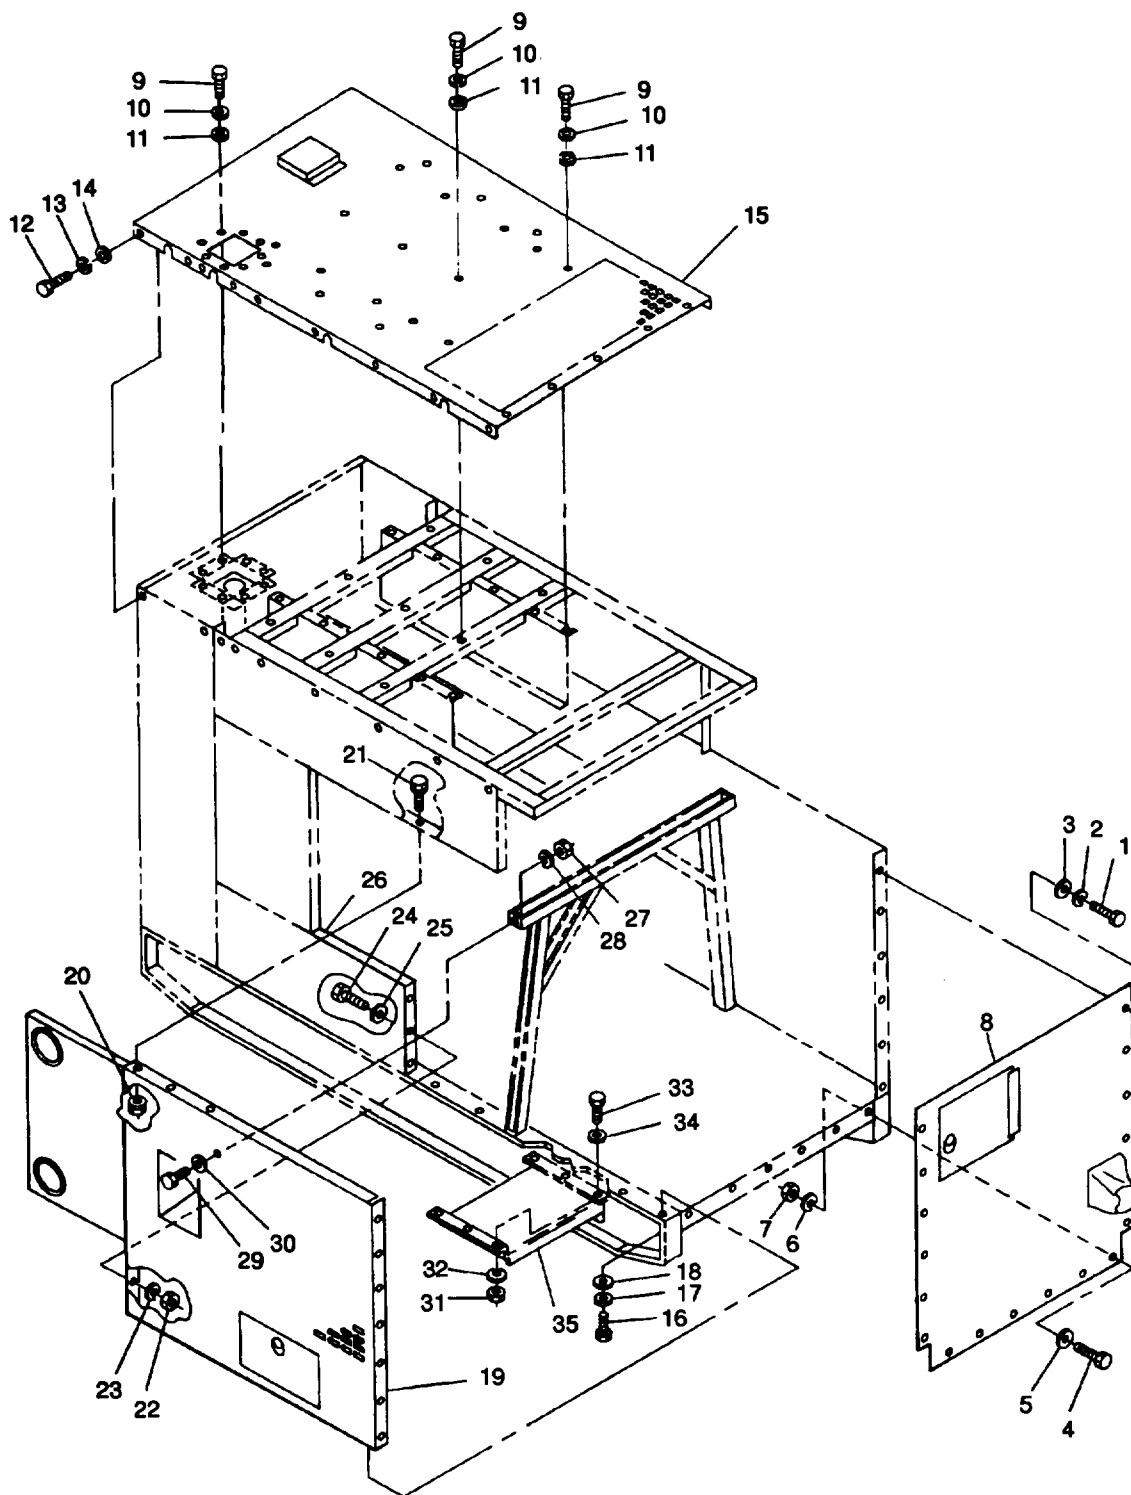
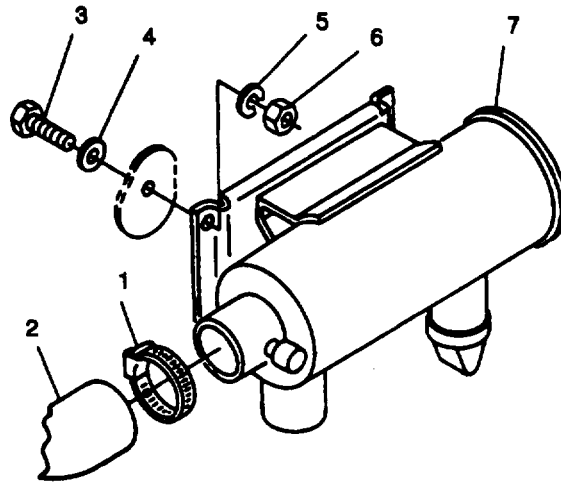
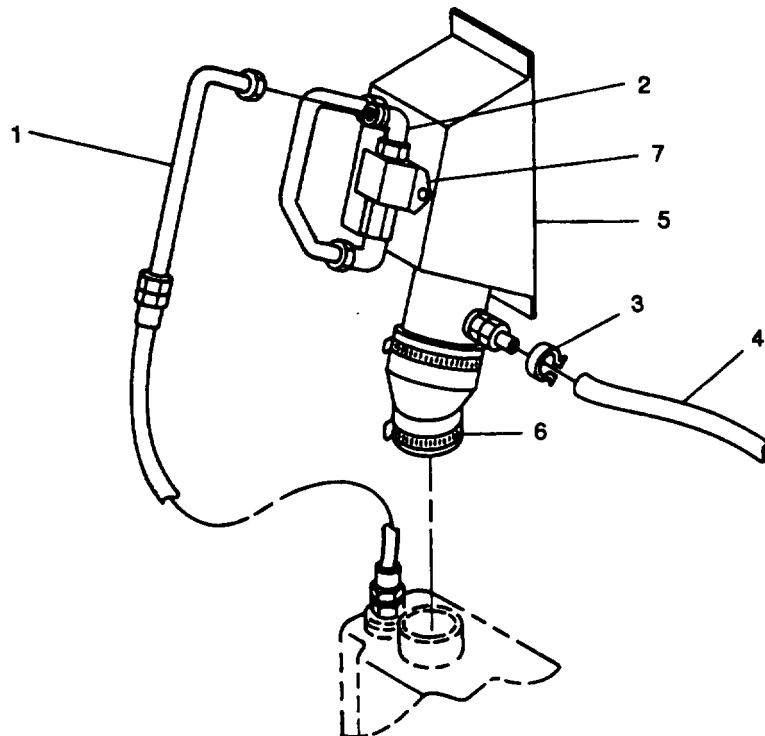
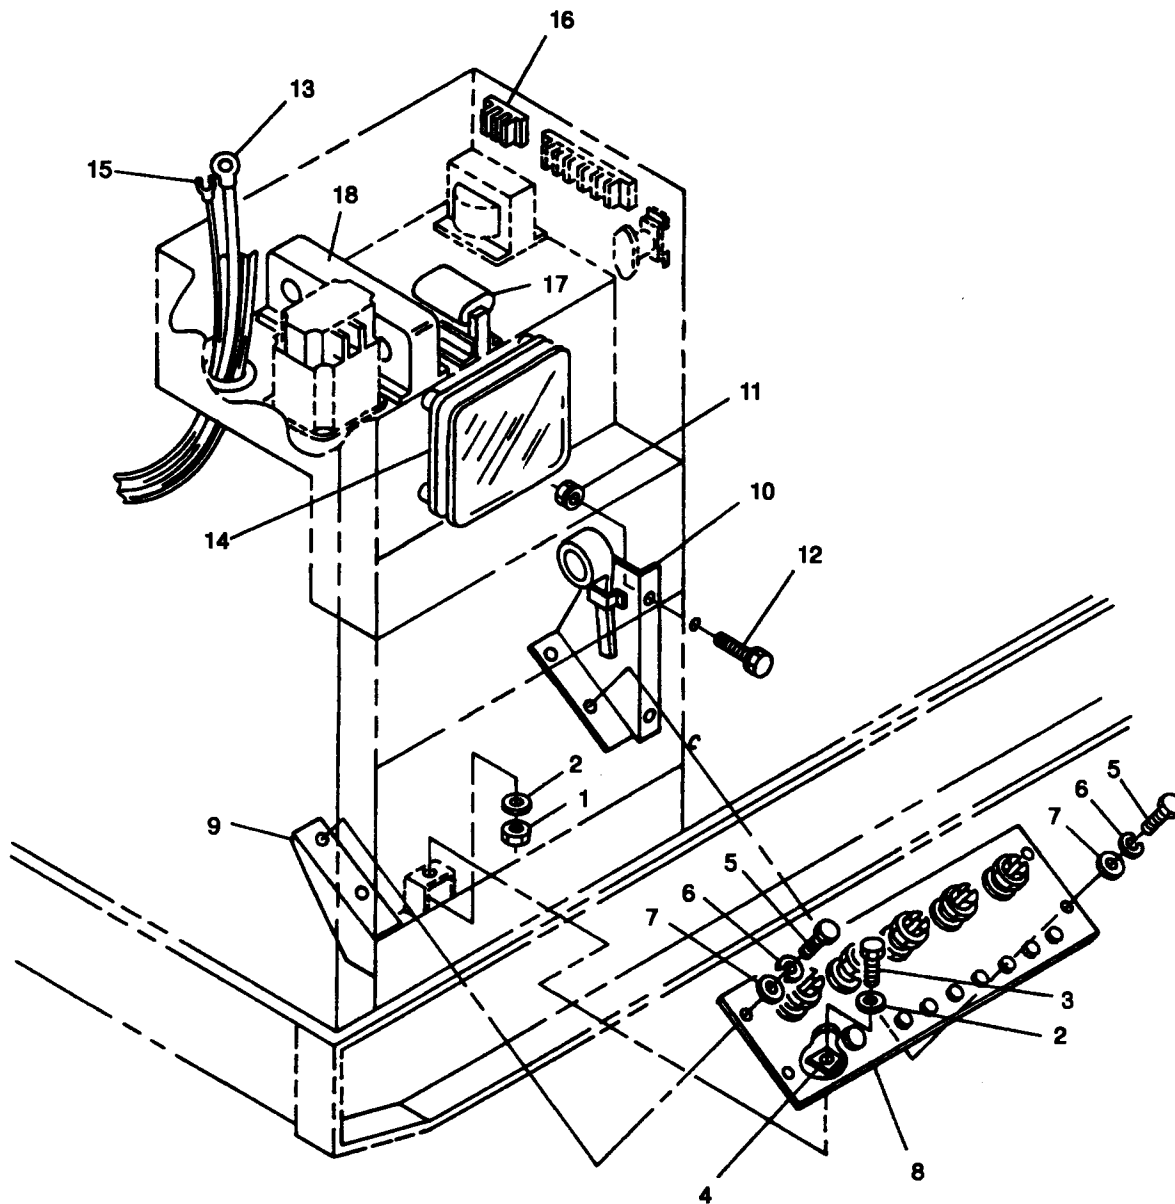

FIGURE 4-11. Generator Set Housing and Rear Forklift Guide
FIGURE 4-12. Air Cleaner Assembly
FIGURE 4-13. Fuel Filler Panel Assembly
FIGURE 4-14. Load Output Terminal Board and Main Generator Cables
- Remove bolts (1 and 4, FIGURE 4-11), washers (3) and (5), lockwashers (2) and (6), nuts (7), and rear housing panel (8) from generator set.
- e. Loosen damp (1, FIGURE 4-12) and remove hose (2) from air deaner assembly (7).
- f. Remove bolts (3), washers (4), lockwashers (5), nuts (6), and air cleaner assembly (7) from generator set.
- g. Disconnect fuel line (1, FIGURE 4-13) from auxiliary fuel pump fitting (2). Cap openings.
- h. Remove damp (3) and disconnect hose (4) from fuel filler panel assembly (5). Cap openings.
- i. Loosen clamp (6) securing fuel filler panel assembly (5) to fuel tank. Cap openings.
- j. Tag and disconnect auxiliary fuel pump (7) electrical connector.
- k. Remove bolts (9 and 12, FIGURE 4-11), lockwashers (10) and (13), washers (11) and (14), and top housing panel (15) from generator set.
- l. Remove bolts (16), lockwashers (17), and washers (18) securing left rear side panel (19) to skid base.
- m. Remove assembled nuts (20) and bolts (21) securing top housing section to left rear side panel (19).
- n. Remove nuts (22), lockwashers (23), bolts (24), and washers (25) securing lower left side panel (26) to left rear side panel (19).
- o. Remove nut (27), lockwasher (28), bolt (29), and washer (30) securing rear housing side panel (19) to engine support frame. With aid of an assistant, remove left rear side housing panel (19), with left rear engine access door attached, from generator set.
- p. Remove nut (1, FIGURE 4-14), lockwashers (2), and bolt (3) securing ground strap (4) to skid base.
- q. Remove bolts (5), washers (7), and lockwashers (6) securing load output terminal board assembly (8) to supports (9) and (10).
- r. Remove assembled nuts (11), bolts (12), and support (10) from right rear side panel.
- s. Tag and disconnect main generator cables (13) from voltage reconnection terminal board (14), and exciter leads (15) from terminal board (16).
- w. Remove nuts (31, FIGURE 4-11), lockwashers (32), bolts (33), washers (34), and rear forklift guide (35) from skid base.
- e. Position generator on skid base aligning mounting holes with mounts and engine flywheel housing adapter (23).
- f. Install bolts (8), washers (9), and lockwashers (10), tightening bolts (8) slowly to ensure even and proper seating of generator case lip to engine flywheel housing adapter (23). Torque bolts (8) to 25 ft-lbs (34 Nm).
- g.. Install bolts (14), Belleville washers (15), snubbing washers (13), washers (12), and nuts (11) securing generator assembly to skid base. Torque nuts (11) to 210 ft-lbs (285 Nm).
- h.. Install bolts (6) and washers (7) securing generator drive disc to engine flywheel. Torque bolts (6) to 35 ft-lbs (47 Nm).
- i. Install screen/cover (5) on generator case with screws (3), washers (4), lockwashers (2), and nuts (1).
- j. Adjust nuts (17) on generator mount, to obtain 0.5 in. (12.7 mm) minimum clearance between ends of bolts (19) and skid base. Torque nuts (17) to 150 ft-lbs (203 Nm).
- k. Loosen nut (24), adjust bolt (25) until 0.25 in. (6.4 mm) protrudes past bracket (27). Tighten nut (24).
- l. Install rear forklift guide (35, FIGURE 4-11) in skid base with bolts (33), washers (34), lockwashers (32), and nuts (31).
- m.. Install main generator cables (13, FIGURE 4-14) and exciter leads (15) through bottom of output box assembly.
- n. Wrap main generator cables (13) through droop current transformer (17) and current transformer (18). Connect main generator cables (13) to voltage reconnection terminal board (14), connect exciter leads (15) to terminal board (16), and remove tags.
- p. Install support (10) on right rear side panel with bolts (12) and assembled nuts (11).
- q. Secure load output terminal board assembly (8) to supports (9) and (10) with bolts (5), washers (7), and lockwashers (6).
- r. Secure ground strap (4) to skid base with bolt (3), lockwashers (2), and nut (1).